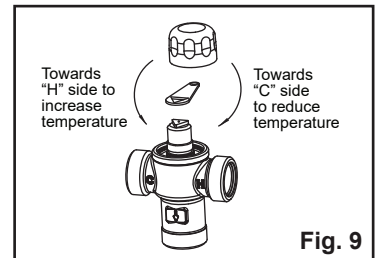

Fig. 9
- 4C** **Thermostatic Mixing Valve** (Fig. 7) To adjust the mixed outlet temperature of the valve, remove the cap to gain access to the adjusting spindle. The spindle should be rotated towards the "C" side to reduce the temperature and towards the "H" side to increase the temperature - until the desired set point is reached (refer to Fig. 9).